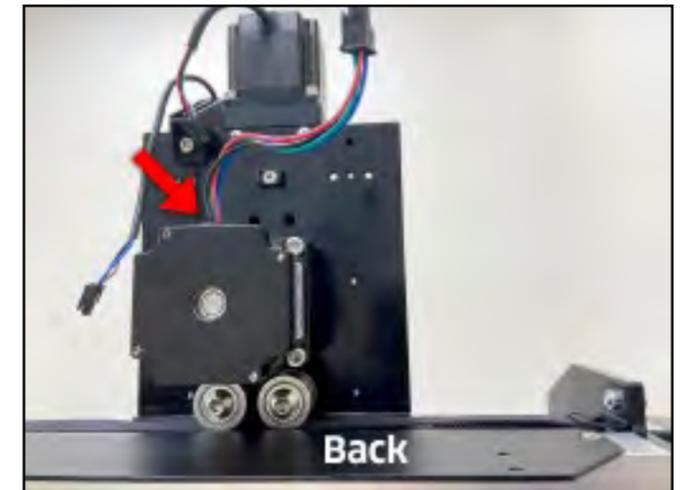

Figure 5-3
4. Position the X-motor over the threaded screw holes on the motor housing. See **Fig. 5-3**.
5. Use a 4mm hex key and four (4) M5×12mm SHCS to secure the X-motor to the motor housing. Fully tighten.